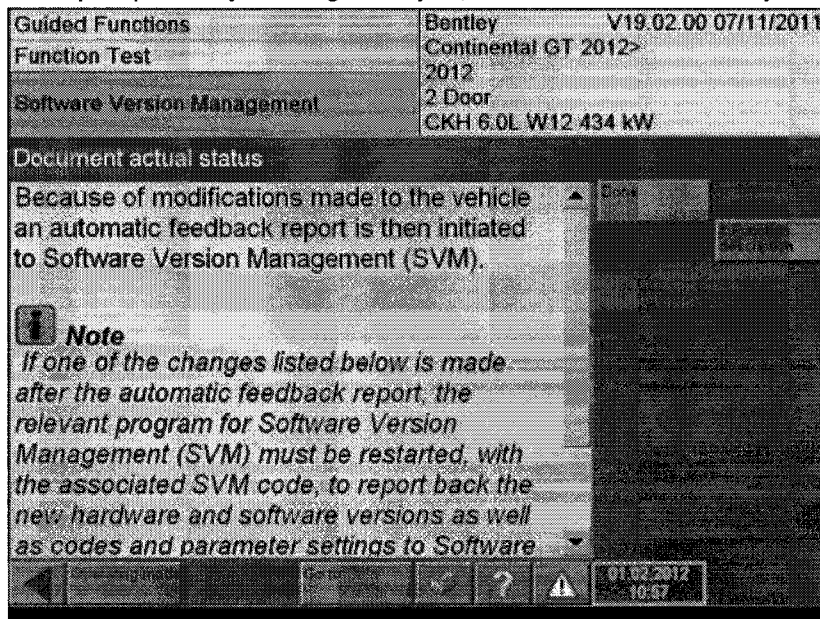

Figure 20
22. The test will progress to the *Document actual status*, automatic feedback report screen Select *Done* (see Figure 20)